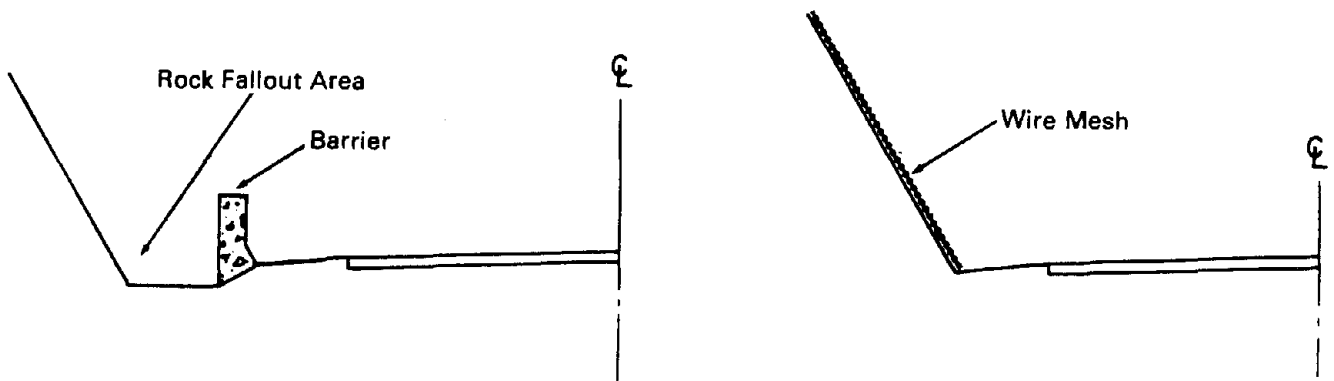

Figure 4. Barrier and wire mesh to prevent falling rocks from reaching pavement.
- b. Place fences, earth berms, or other barriers between the roadway and slope to prevent falling rocks from reaching the pavement. Consider placing netting on slopes where fallout space next to the roadway is limited (figure 4).